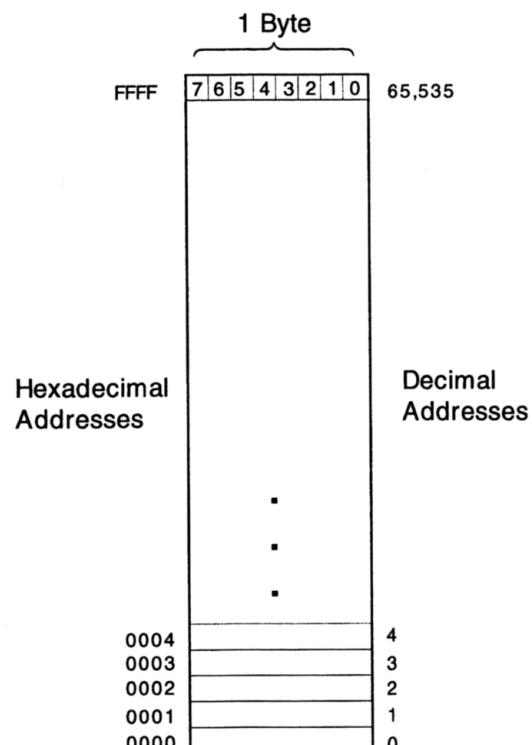

Figure 1-6. Memory map.
**FIGURE 1-6** mov Acc., Reg in the Princeton architecture.